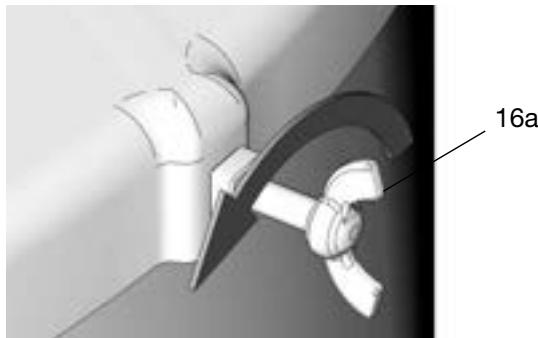

FIG. 24
2. Remove the drum cover (16) by loosening the thumb screws (16a) (FIG. 24).